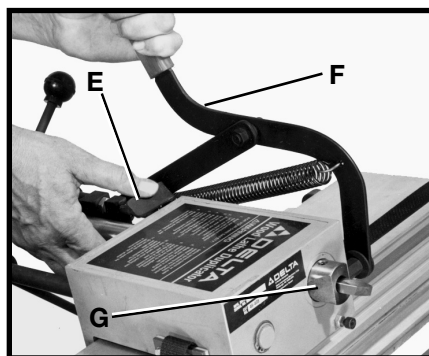

Fig. 49
5. Pull back handle (F) Fig. 49, and push positioning lever (E) forward all the way. Move handle (F) forward as far as possible. The tool holder (G) will then be in the full outward position. **IMPORTANT:** Do not move cutting tool holder (G) in or out any further until duplicator is aligned with the lathe.